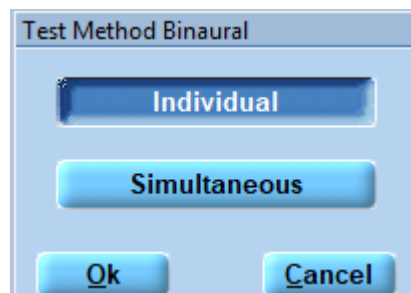

Figure 116
**Individual** to change the levels for the right and left ear individually. Select **Simultaneous** if you want the left and right ear levels to match (Figure 116).